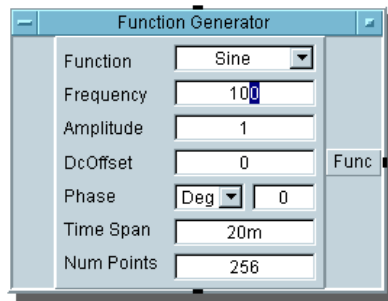

Figure 1-28. Highlighting a Frequency Field Number
7. Click the `FREQUENCY` field to the right of the value 100, and while holding the mouse button down, move the mouse to the left to highlight the last 0, as shown in Figure 1-28.